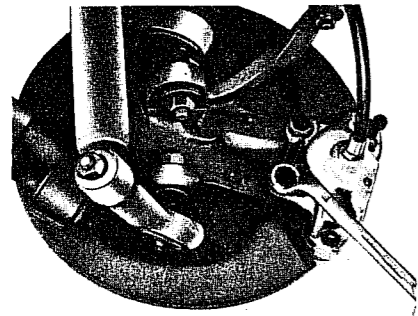

Fig. H.8. Removing the brake calliper on disc-braked models.
**Disc brakes** Undo the two bolts which secure the brake caliper so that it can be pulled off. Take the weight off the flexible pipe by tying it up (Fig. H 8).